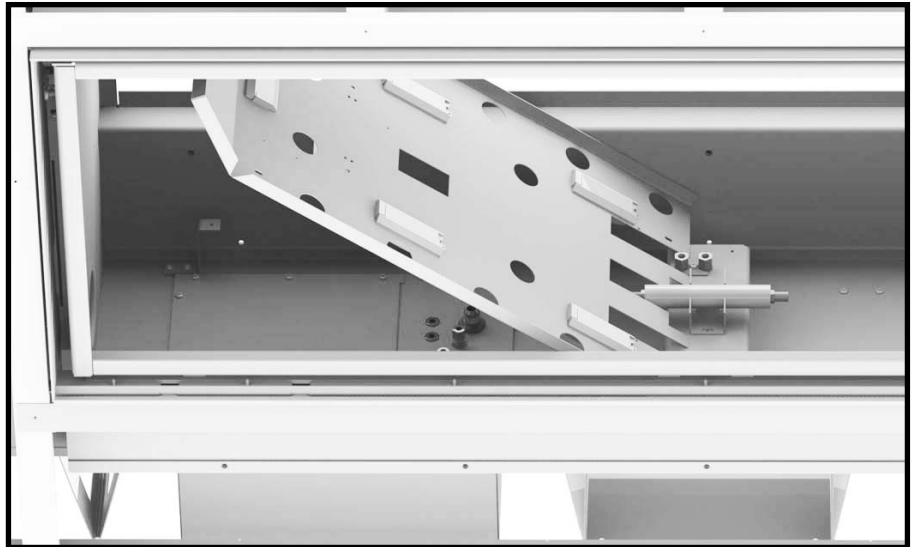

Figure 71: Installing one half of secondary floor.
3. On the bulkhead side, tilt the floor approximately 45 degrees and insert the wires from the floor through the rubber grommet in the bulkhead plate (Figure 71).